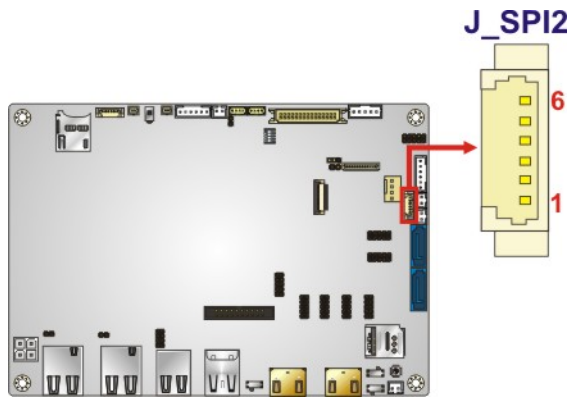

Figure 3-32: EC SPI Flash Connector Location
3.2.31 SPI Flash Connector (EC)
- CN Location:** See Figure 3-32